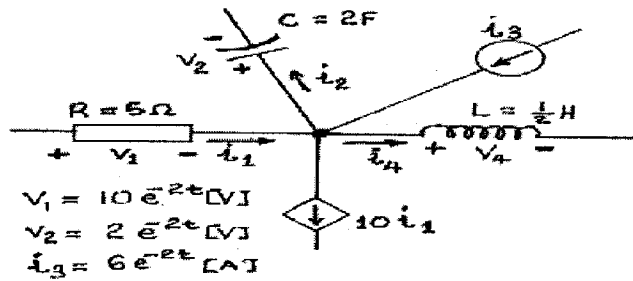

FIG Q1
1. In Figure Q1. A portion of a circuit is shown for which the following voltages and currents are known: $v_1(t)$, $v_2(t)$, and $i_3(t)$. Find $v_4(t)$. [20 marks]